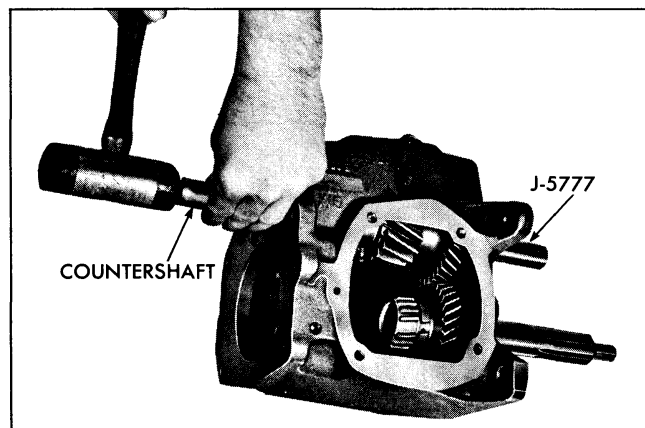

Fig. 7-33 Installation of Countershaft
12. Align countergear with shaft and, using soft hammer, tap shaft through, pushing bearing loader J-5777 out front of case (Fig. 7-33).